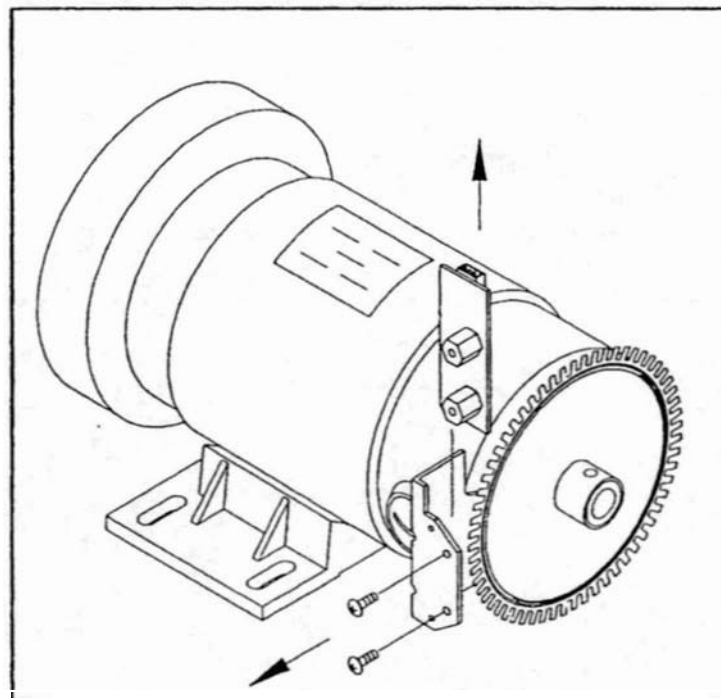

Fig.2
3. Loosen two screws and remove optical switch. (see Fig.2)